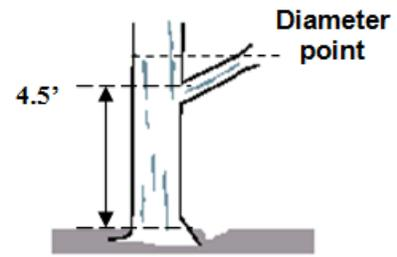

*Figure 6 - Bottleneck Tree*
3. **Tree with Butt-Swell or Bottleneck:** Measure these trees 1.5 feet above the end of the swell or bottleneck, if the swell or bottleneck extends 3.0 feet or more above the ground (Figure 6).